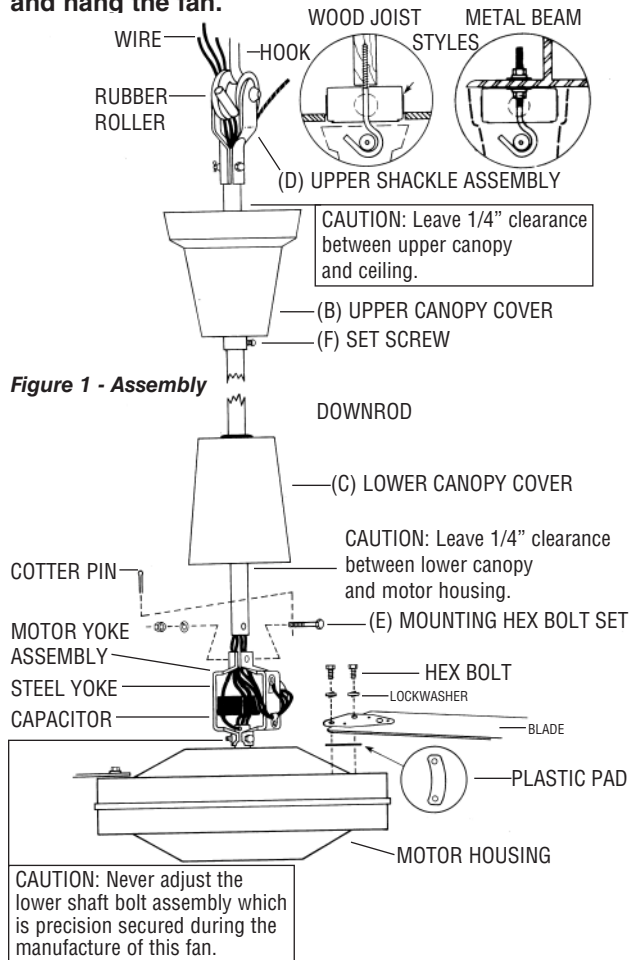

Figure 1 - Assembly
2. At the motor yoke assembly (A), remove the cotter pin and loosen the hexagon nut. Carefully remove spring washer and the hexagon screw (E). (See Figure 1)
3. Slide the upper canopy cover (B) (bell shaped) up the rod. Slide the lower canopy cover (C) up to rod.
**CAUTION:** Blades must be fastened to the motor as shown in Figure 1. DO NOT reverse blades when installing.